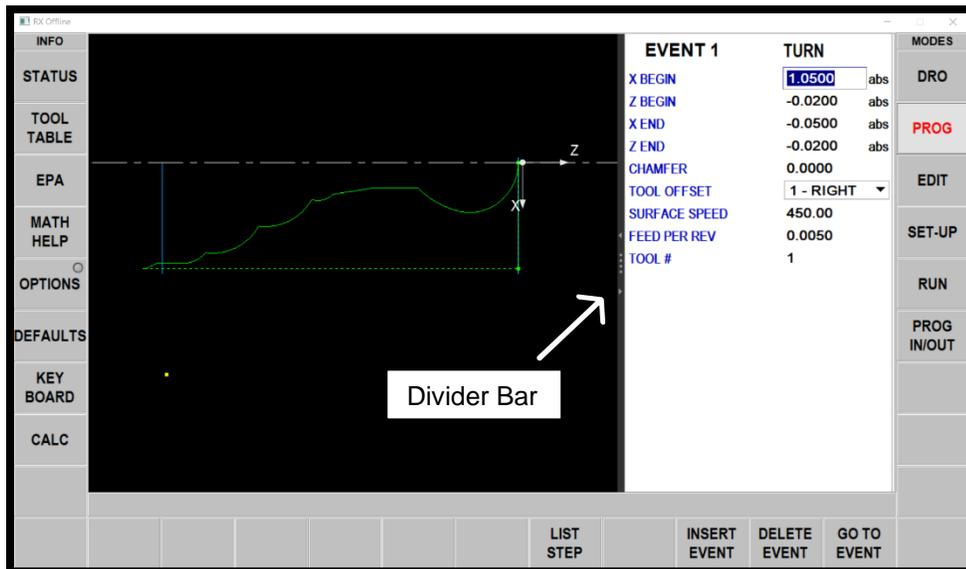

Figure 21
- Swipe left on the touchscreen to view EVENT 1 at the right side of the screen and a graphic display of the program geometry on the left (Figure 21).
- Expand or collapse multi-event view by dragging the divider bar (Figure 21) left or right.